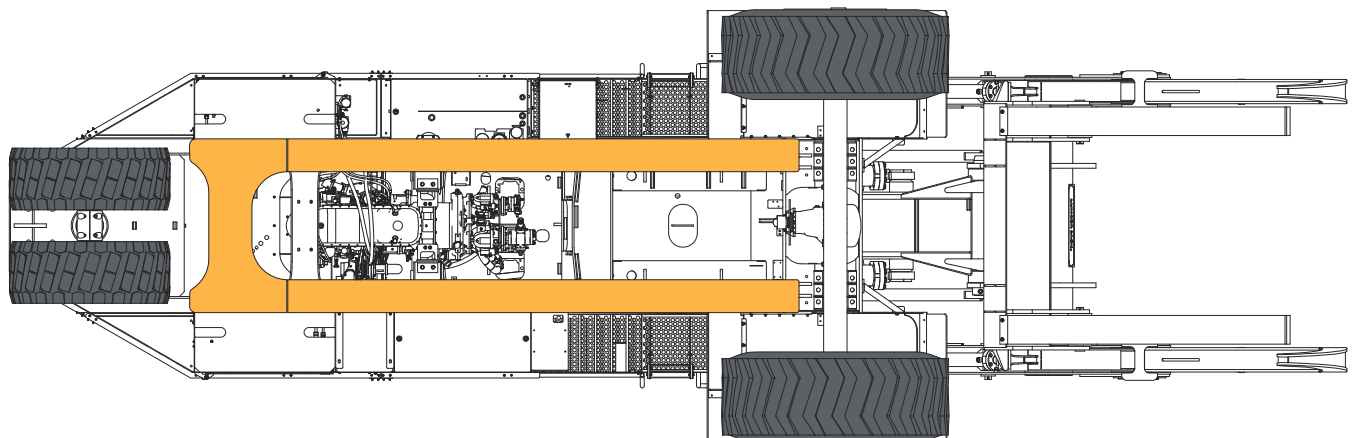

Figure 5-6-1 Jacking Locations, L90
4. See Figure 5-6-1. Jacks and jack stands may be placed anywhere on the bottom 1" steel plate highlighted in yellow. Use pads (anti slip material) that are minimum 4" x 4" in size between jack and Logstacker to prevent damage.